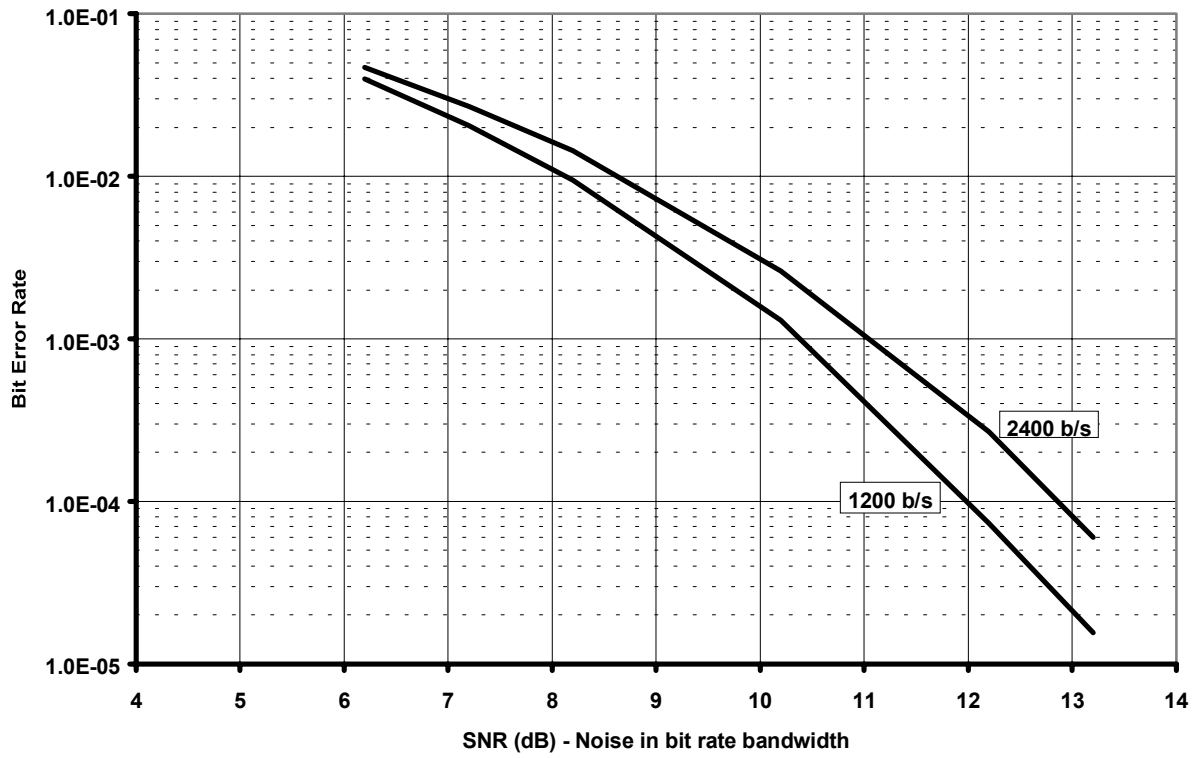

Figure 15 Typical FFSK/MSK Bit Error Rate Graph
54	V DD(A) = 3.0V, for a "101010101 ... 01" pattern measured at the input amplifier feedback pin (12). Signal level scales with V DD(A) . See Figure 15 for variation of BER with SNR.